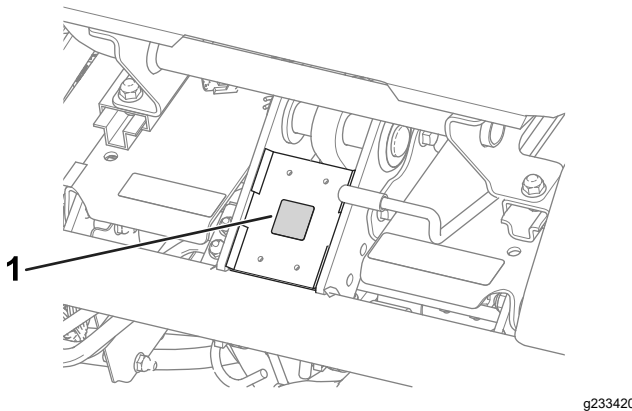

Figure 11
- Apply the CE mark decal (Part No. 93-7252) to the frame under the front of the seat (Figure 11).